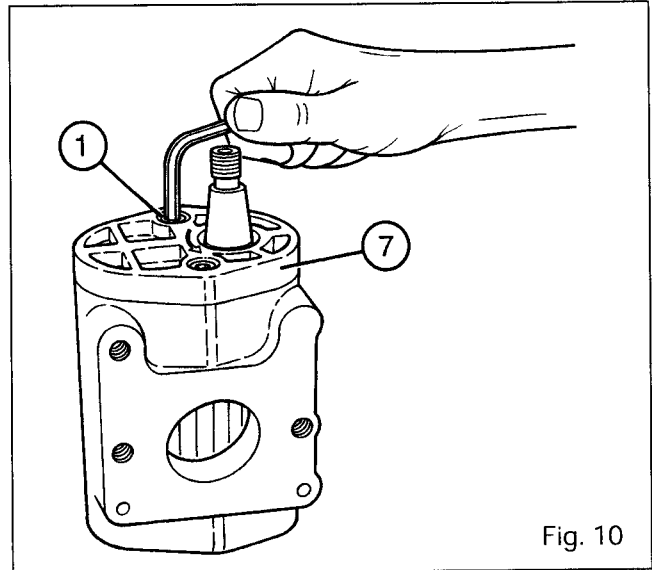

Fig. 10
28. Remove the bolts (1) and the cover (7) (Fig. 10).